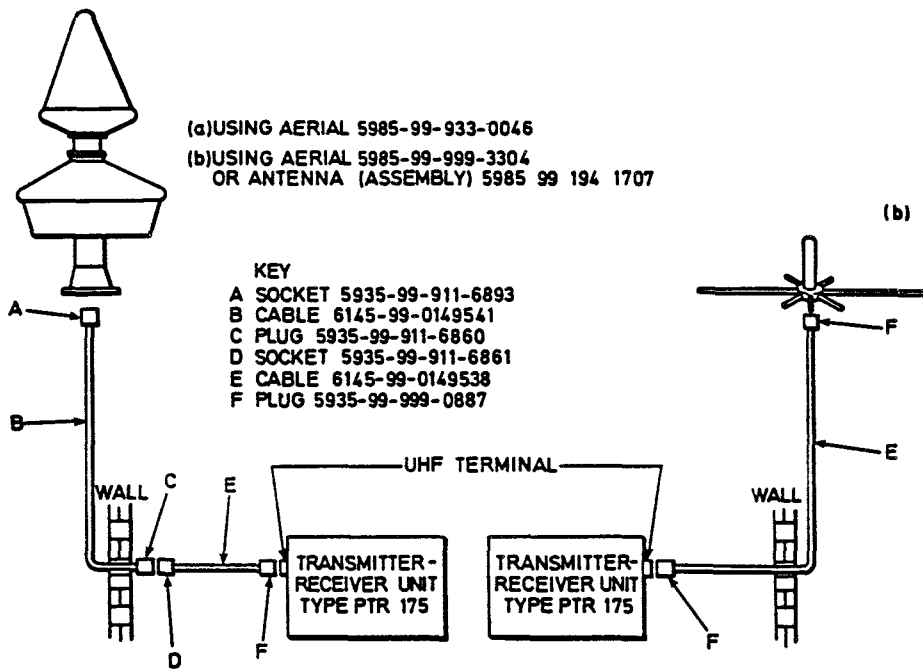

Fig 7 Typical UHF aerial installations
17 Both types of VHF aerial installation and the VHF aerial arrangement are illustrated in Fig 7.
24 Details of typical installations for both aerials are shown in Fig 7. Additional information for installations employing the more commonly used aerial, 5985-99-933-0046, is given in AP 116E-0253-1, Part 1, Section 4, Chap 1. In all installations, the length of the coaxial cable from the aerial to the transmitter-receiver should be kept to a practical minimum in order to reduce power loss.
26 Details of all rf cable connections to both types of aerial system are included in the aerial installation diagrams Fig 7 and 8. Termination connection of the installation wiring to the strips, connection, for the control units and the monitor jacks are detailed in Table 3 and 4 respectively.
- 1 TYPICAL AERIAL INSTALLATIONS, INCLUDING DETAILS OF PLUGS, SOCKETS AND RF CABLES, ARE SHOWN IN FIG. 7 AND 8